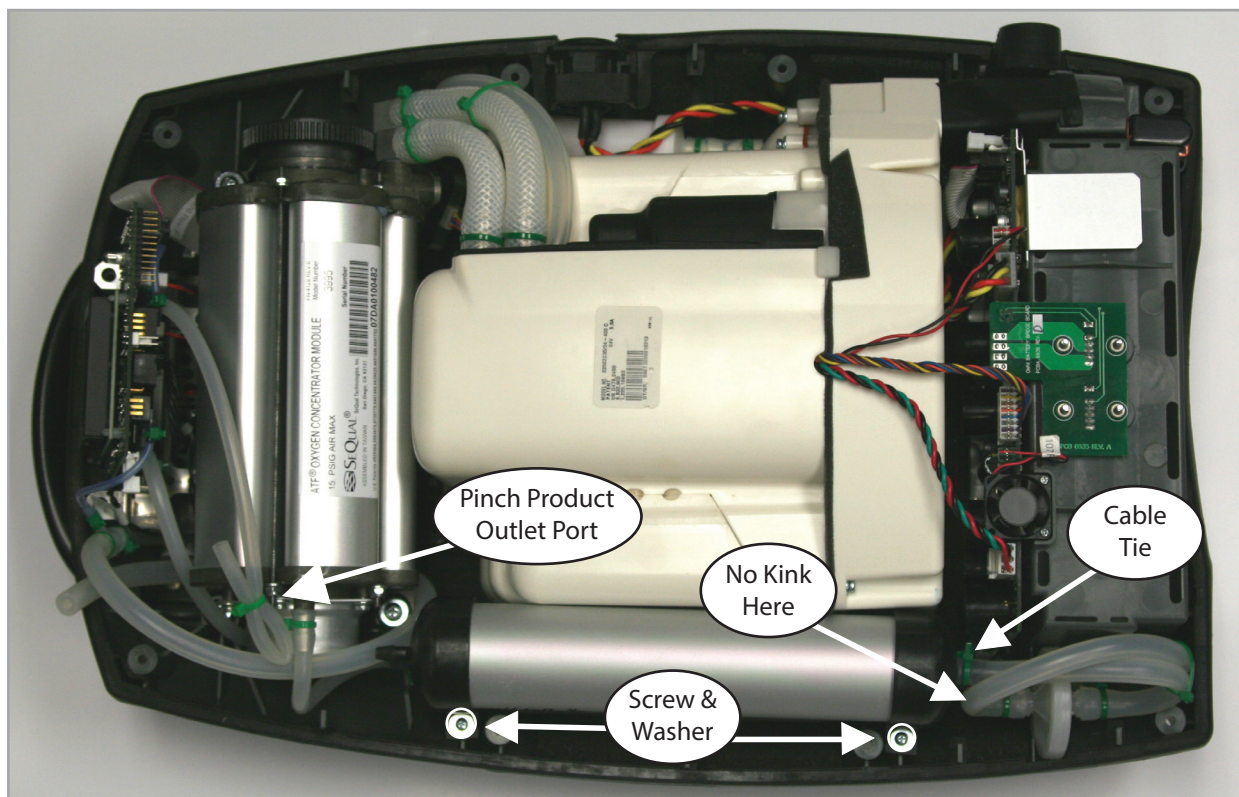

Figure 41: Product Tank Removal.
3. Unscrew the 2 screws (M3x10 Plastite Screw, P/N 6950-310) and remove the screws and washers (M3 Flat Washer, P/N 6950-03) as shown in Figure 41 shown below.
6. To reinstall, secure the 2 silicone tubes coming from the HEPA filter to the bottom ports of the Product Tank. Orient the HEPA filter so the loop is above the filter as shown in Figure 41 above. Secure joints with cable ties. Inspect the tubing to ensure the tubing is not kinked.